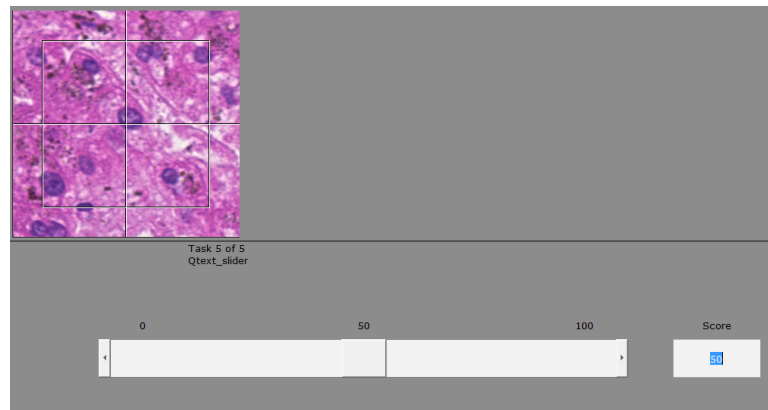

Figure 4
- **Description and purpose:** Rate the cell or tissue based on description (*Figure 4*).